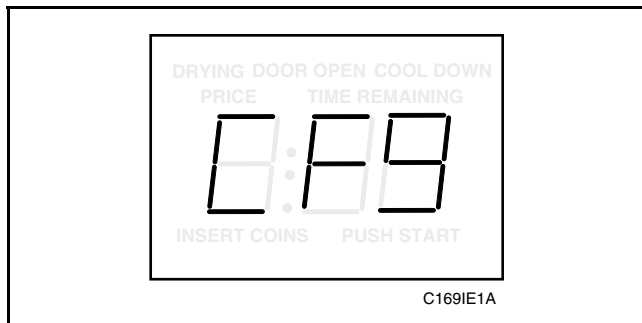

Figure 77
- Press the LOW TEMP (+) pad or the NO HEAT (-) pad to scroll through the programmable options until “CFg” appears in the VFD, *Figure 77*.